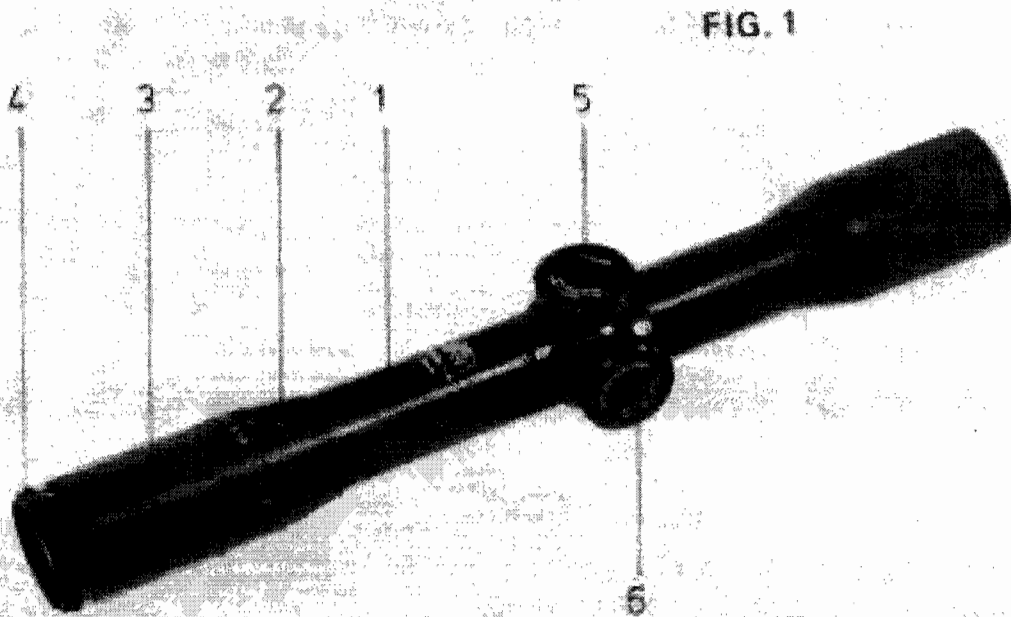

Fig. 1
- 1.4.2. Mechanical design (Fig. 1)
- 2.1. Control elements (Fig. 1)
- 2.2.2. Set optimum focus by turning eyepiece mount (4) (Fig. 1) from + to -.
- 2.2.6. Adjust crosshair of riflescope to the same target. Use coin for setting elevation adjustment (5) (Fig. 1) and windage adjustment (6) (Fig. 1). Take care that setting of locking rings remains unchanged (see section 2.2.3.).
- 2.2.7. Fire a few trial shots and if necessary adjust crosshair after each shot. The sense of rotation for shot correction is engraved on the caps of elevation and windage adjustments (5) (Fig. 1) and (6) (Fig. 1).
- 2.2.9. Depending on the distance between 10 and 600 m, elevation adjustment (5) (Fig. 1) is now set to the corresponding positions. The crosshair is shifted vertically and thus set to the sighting angle related to the distance. On the locking ring white figures are engraved for distances of 100 m and more (in hectometers) and yellow figures for distances below 100 m.